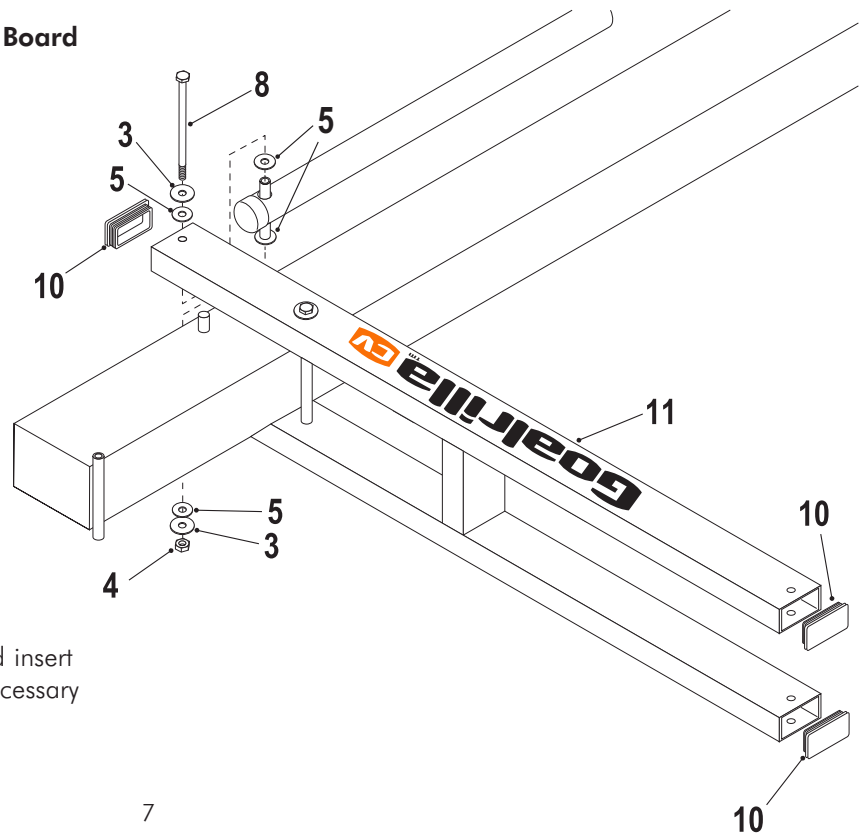

Figure 6
- Secure Actuator (#16) to Lower Arm (#11) using one bolt (#8), two flatwashers (#3), four plastic washers (#5) and one hex nut (#4). See Figure 6. **Tighten both bolts (#8)** securing Lower Arm (#11).